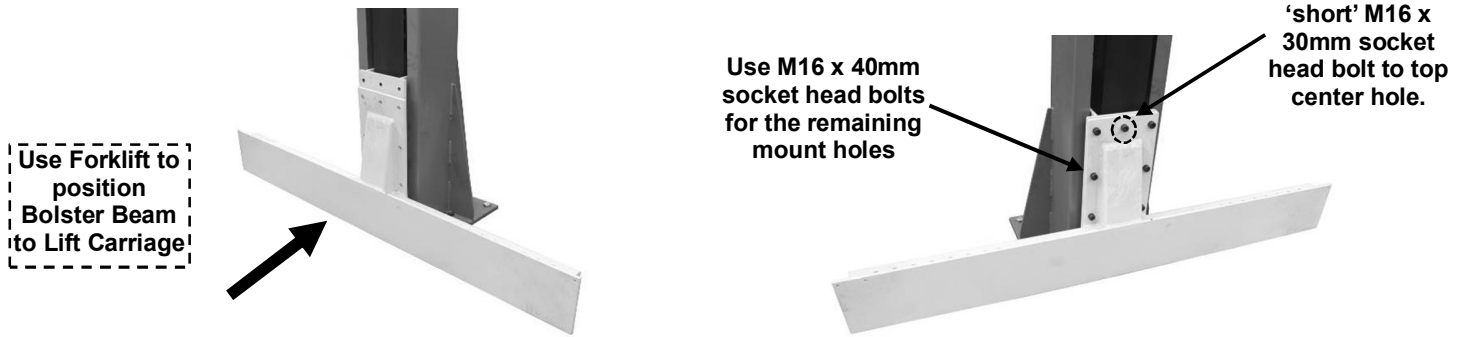

Fig. 5
- 1) Carefully position the **bolster beam** to **lift carriage** using a forklift or dolly. Align bolster beam's mount holes to the lift carriage holes. **First, use the 'shorter' M16 x 30mm socket head bolt, lock washer & flat washer to connect the 'top center' hole position on bolster beam & carriage, which is required for proper chain clearance. Fig. 5. (Next Page)**
- 2) For the remaining 6ea mount holes, use the longer **M16 x 40mm socket head bolts, lock washers & flat washers** to finish connecting the bolster beam & carriage together. Ensure all bolts are securely tightened. **Fig. 5.**